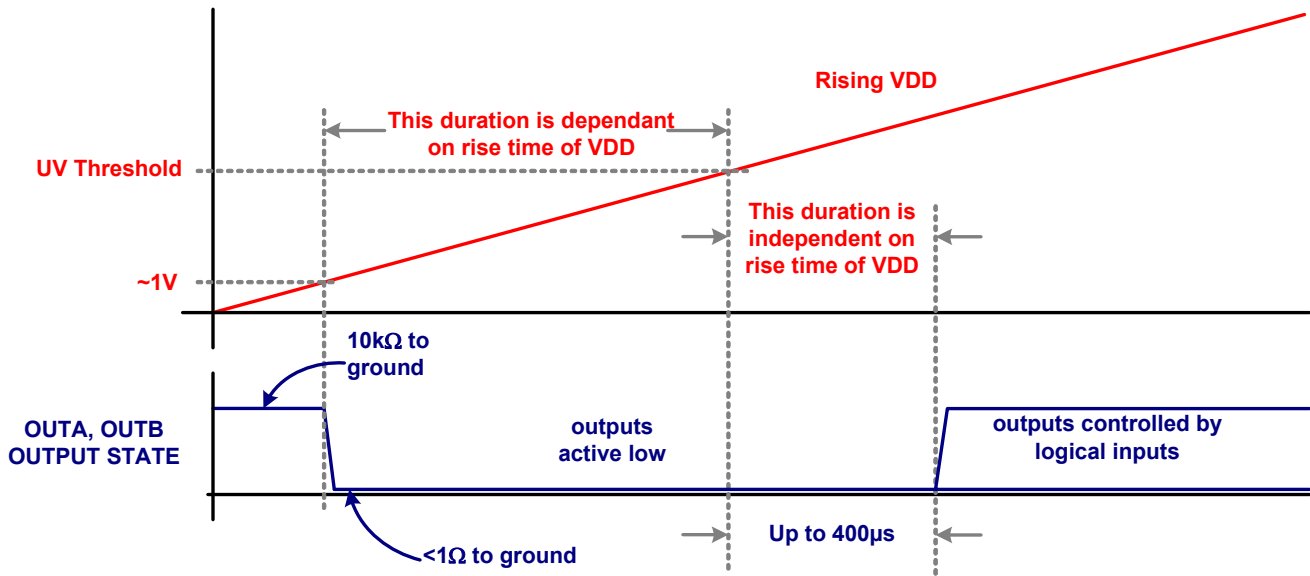

FIGURE 9. START-UP OUTPUT CHARACTERISTIC
- A 400 μs delay further inhibits the release of the output state when the UV positive going threshold is crossed. See Figure 9.
The start-up sequence for input threshold options A, B, and C is designed to prevent unexpected glitches when V_{DD} is being turned on or turned off. When $V_{DD} < \sim 1V$, an internal 10k Ω resistor connected between the output and ground, help to keep the gate voltage close to ground. When $\sim 1V < V_{DD} < UV$, both outputs are driven low while ignoring the logic inputs. This low state has the same current sinking capacity as during normal operation. This insures that the driven FETs are held off even if there is a switching voltage on the drains that can inject charge into the gates via the Miller capacitance. When $V_{DD} > UVLO$, and after a 400 μs delay, the outputs now respond to the logic inputs. See Figure 9 for complete details.